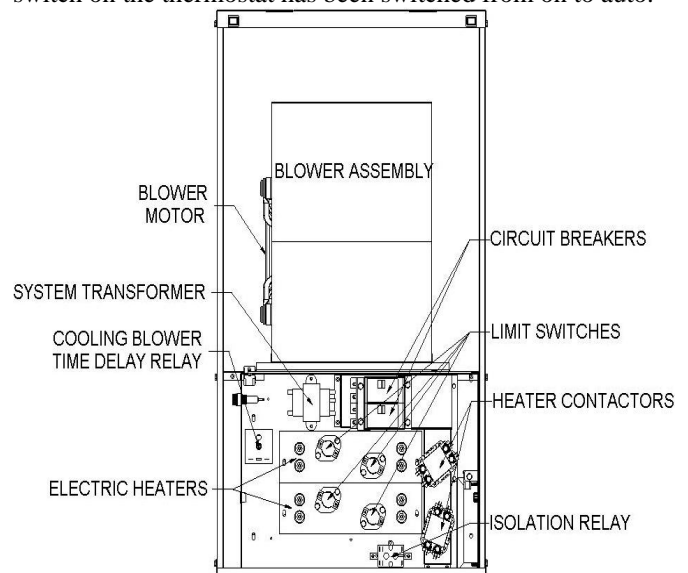

Figure 9: Component Locations
5. Remove the two screws on the right side of the blower mounting plate and slide the blower out of the furnace. Refer to Figure 9.